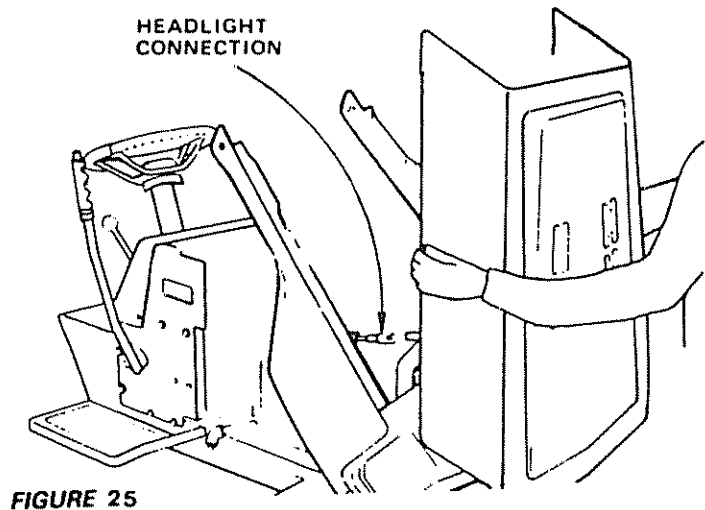

FIGURE 25
- Unsnap headlight connection (Fig. 25).
- Stand in front of tractor. Grasp hood and tilt forward and lift off (Fig. 25).